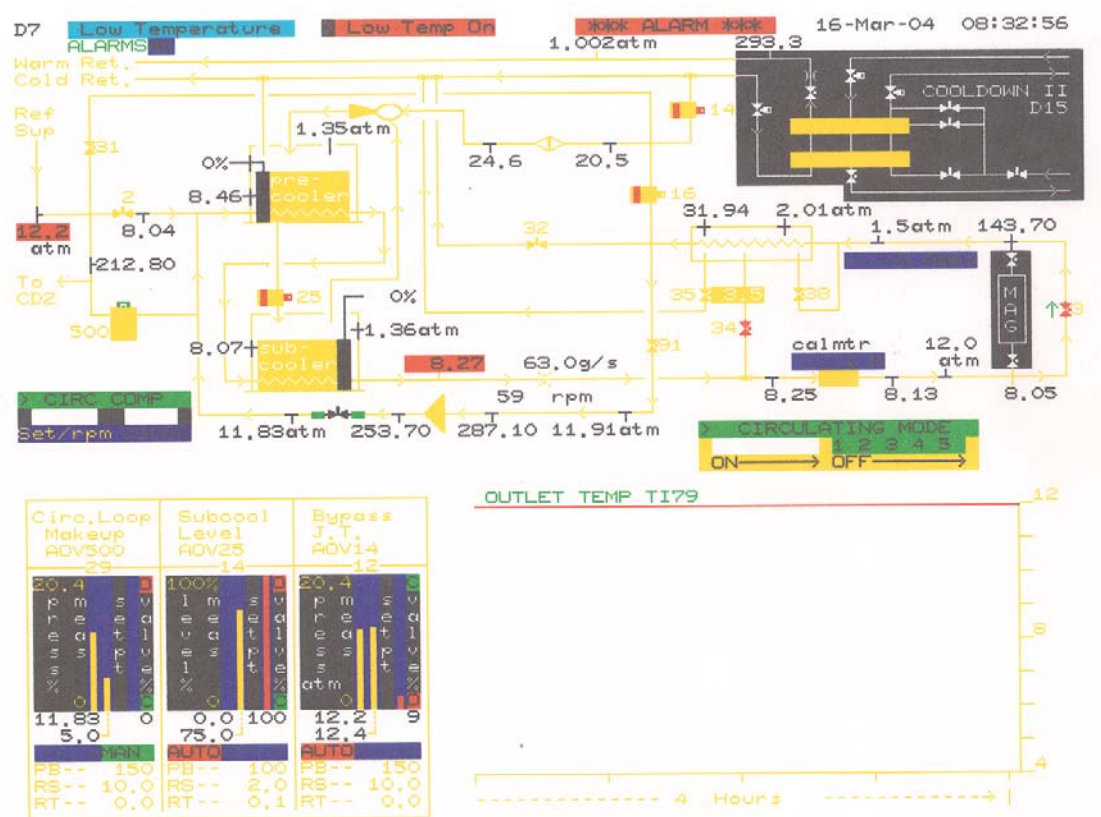

Figure 1. Display of control page D7 for Test and Measure in Bay D and E
- 5.3 For testing magnet in Bay D or E, use screen display page D7 to monitor process condition and control (as shown in Figure 1). The flow diagram consists of the Precooler, Subcooler, Cold Surge Tank, Ejector and Circulating Compressor. The Ejector is used to maintain pressure in the Subcooler to about 0.65 atm (~ 3.8 K). In the basic operation (without using Cold Circulator), high pressure helium from HEUB refrigerator (cooled by Precooler and Subcooler to approximately 3.9 K) is used to cool the magnet to ~ 4.2 K. After cooling the magnet, helium passes through Cold Surge Tank and is used as inlet to the Ejector. Three controllers for 1) loop pressure in circulator mode, 2) liquid level in Subcooler and, 3) by-pass flow through AOV14, are given in the lower left corner. Trend of temperature returned from the magnet is given in the lower right corner.